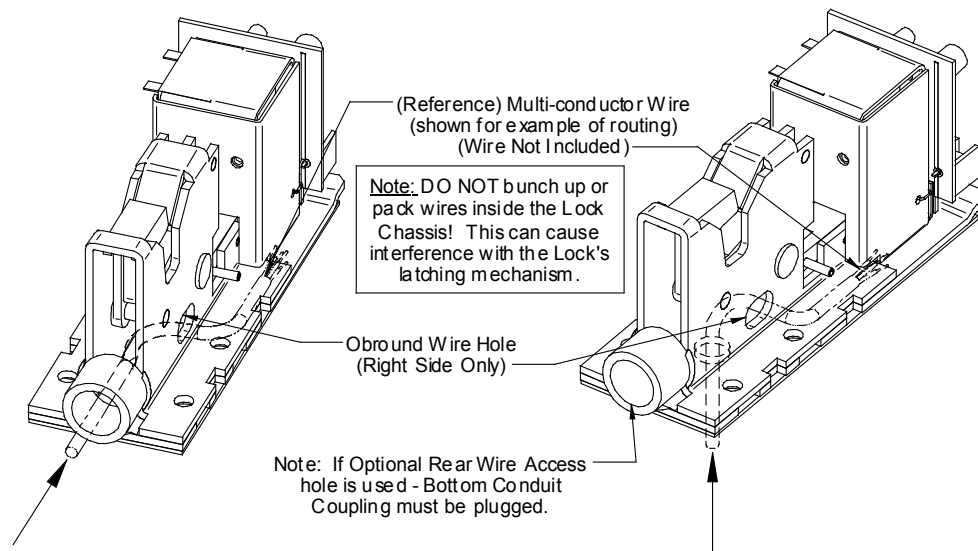

Figure 9 – Wire Routing
2. Route all electrical wiring through either the wire conduit coupling provided in the bottom of the chassis or through the optional 1/2" (12.7mm) hole in the rear of the lock mounting chassis (See **Figure 9**). **Note:** If the conduit coupling is not used, a 1/2"-14 NPS conduit or pipe plug should be installed and tack-welded into place to close the fitting.